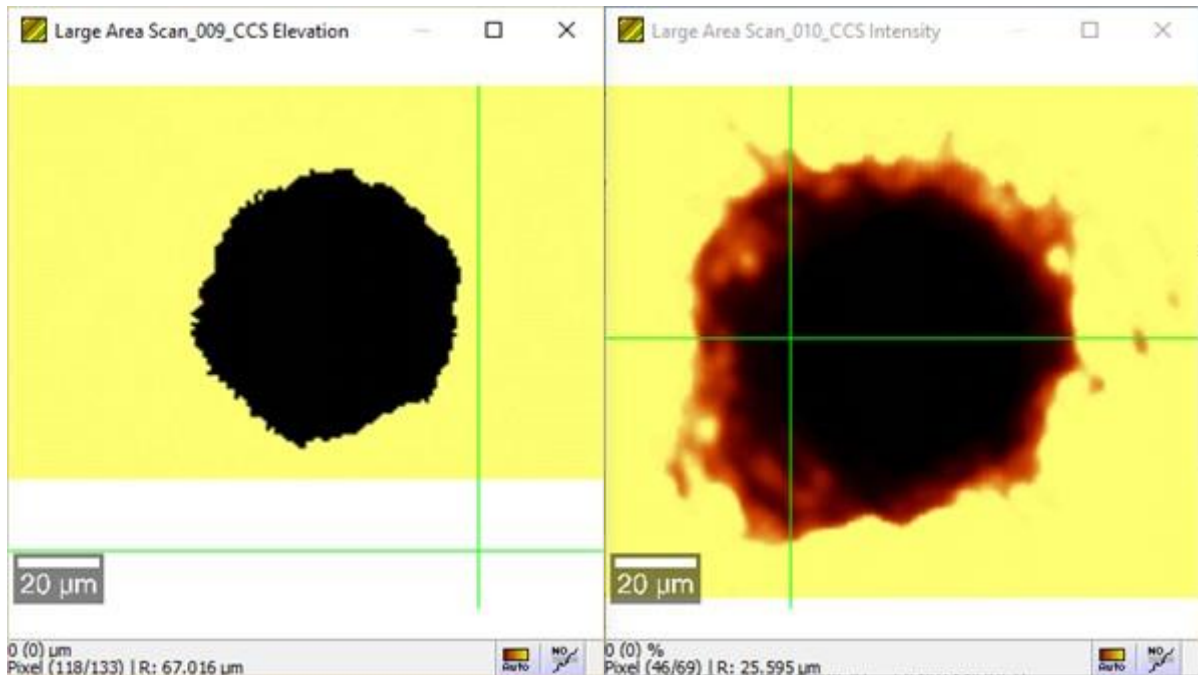

Figure 2: Pinhole with CCS sensor
9. You should see the pinhole as a black dot in the resulting images. Decrease the area of the Large Area Scan (e.g. select with Listen Area) until you get pictures like in Figure 2. Keep both images open.